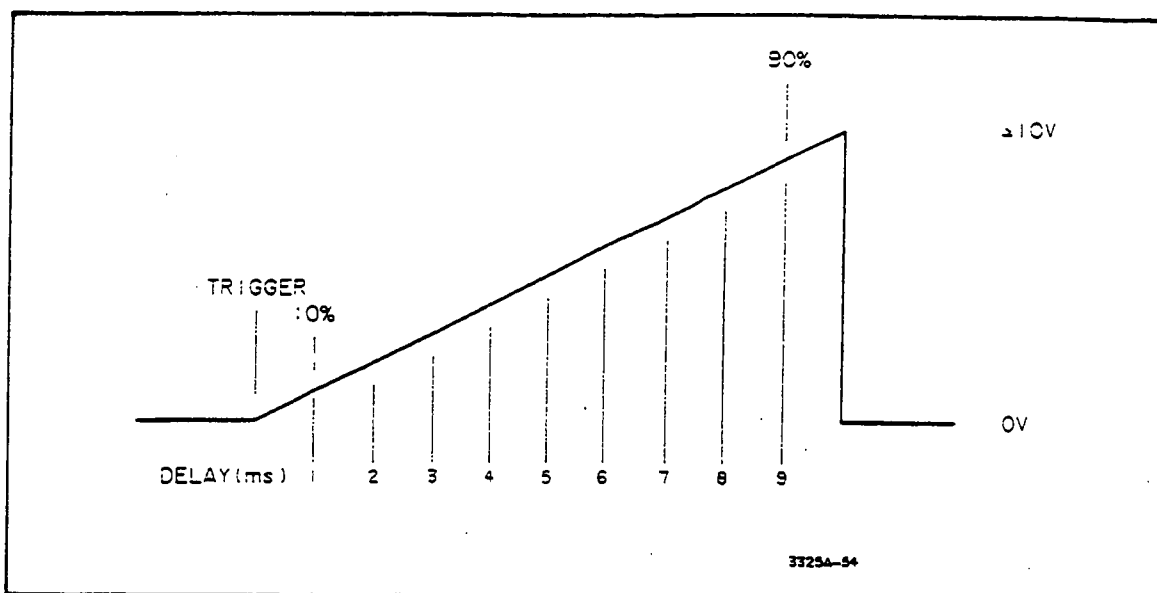

Figure 4-13. X Drive Linearity Test.
e. Set the digital voltmeter delay to .001 (seconds). Adjust the dc power supply for a digital voltmeter reading of -1.600 V. Record the digital voltmeter reading on the Performance Test Record under "X Drive Ramp Measurement, (10%),  $y_1$ ." This is the 10% point on the X Drive ramp. See Figure 4-13.